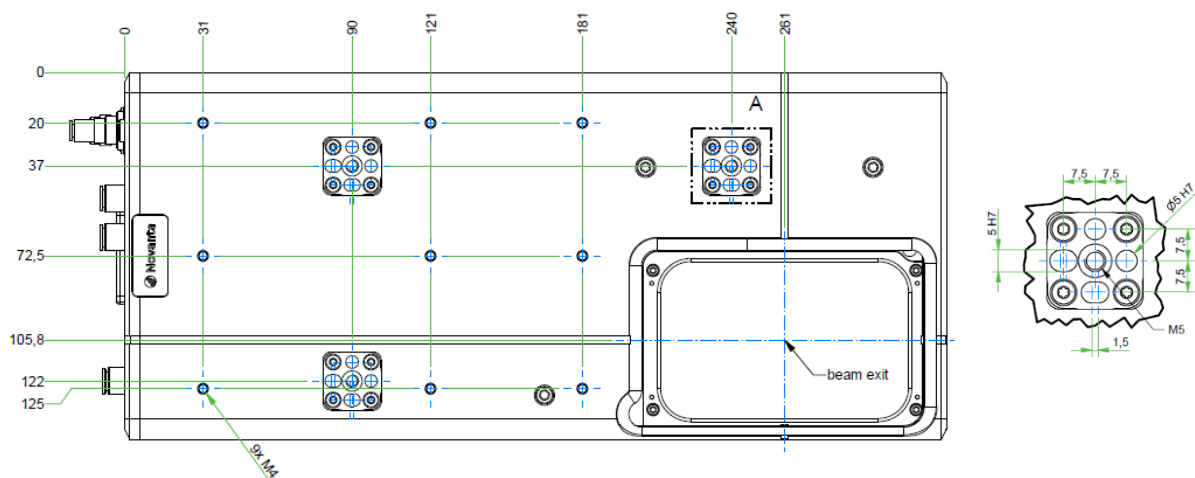

Figure 1: Underside of the scan head (left) and close up of mounting location A (right).
- Mount scan head to the mounting plate using the 3-point mounting locations shown in Figure 1.